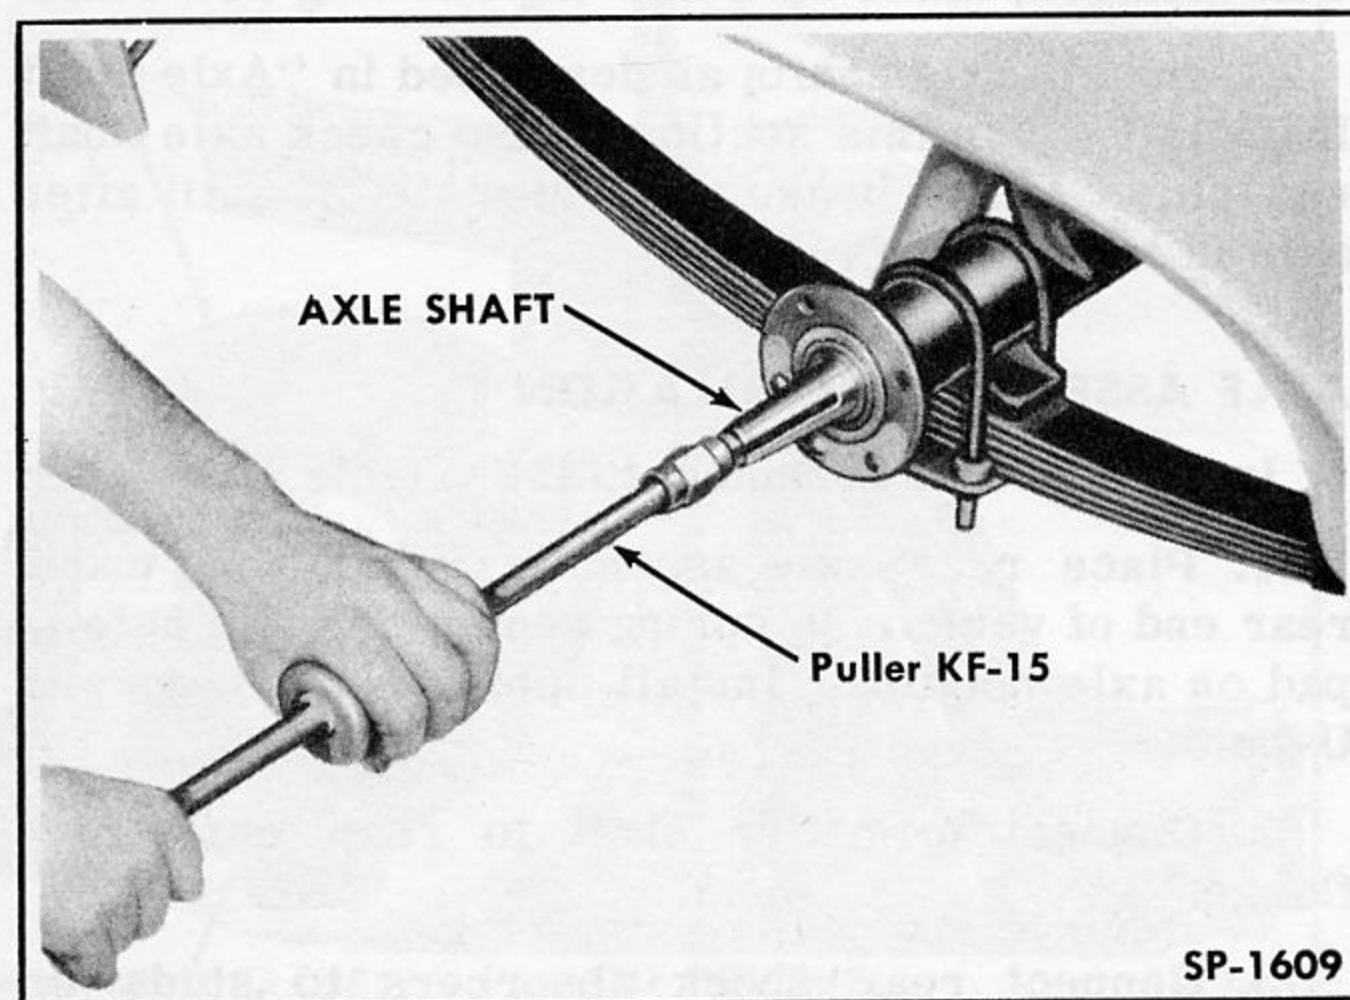

Fig. 187—Removing Rear Axle Shaft
7. Remove rear axle shaft using Axle Shaft Puller KF-15 (Fig. 187). Care must be exercised as shaft comes free; it must be lifted out to prevent damage to bearing, cup and inner oil seal. Remove bearing cone from axle shaft using a universal puller. NOTE: IF AN AXLE SHAFT IS BROKEN AT SPLINED END AND IS CAUGHT IN DIFFERENTIAL, REMOVE AND DISASSEMBLE REAR AXLE TO REMOVE SHAFT. Removal by disassembling the axle will also permit thorough cleaning and inspection which will disclose any other damage.